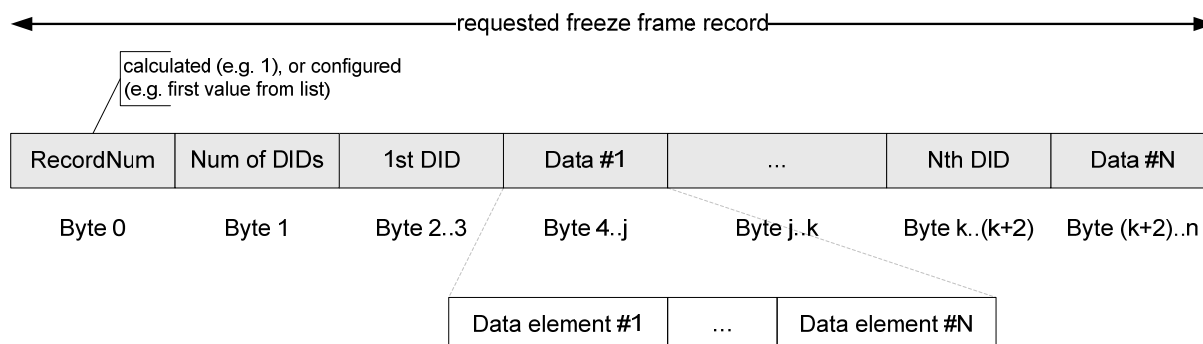

Figure 49 Buffer format used from Dem\_GetFreezeFrameDataByDTC
**[Dem071]** 「 The function Dem\_GetFreezeFrameDataByDTC (refer to chapter 8.3.4.2.4) shall copy the specific data identifiers (DIDs) of the requested freeze frame record to the destination buffer (DestBuffer). The function shall transmit these data as a complete record with the format shown in Figure 49.」(BSW04074)